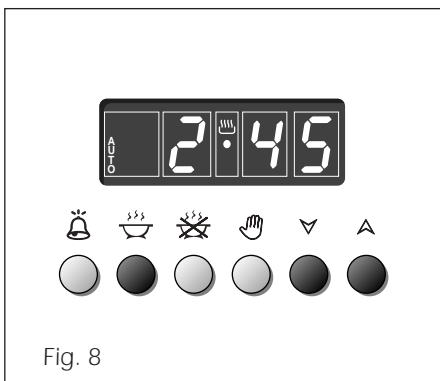

Fig. 8
1. Set the length of the cooking time by pushing the  button and the  button to  advance, or to go back if you have passed the desired time (fig. 8). The **AUTO** and the  symbol will be on.